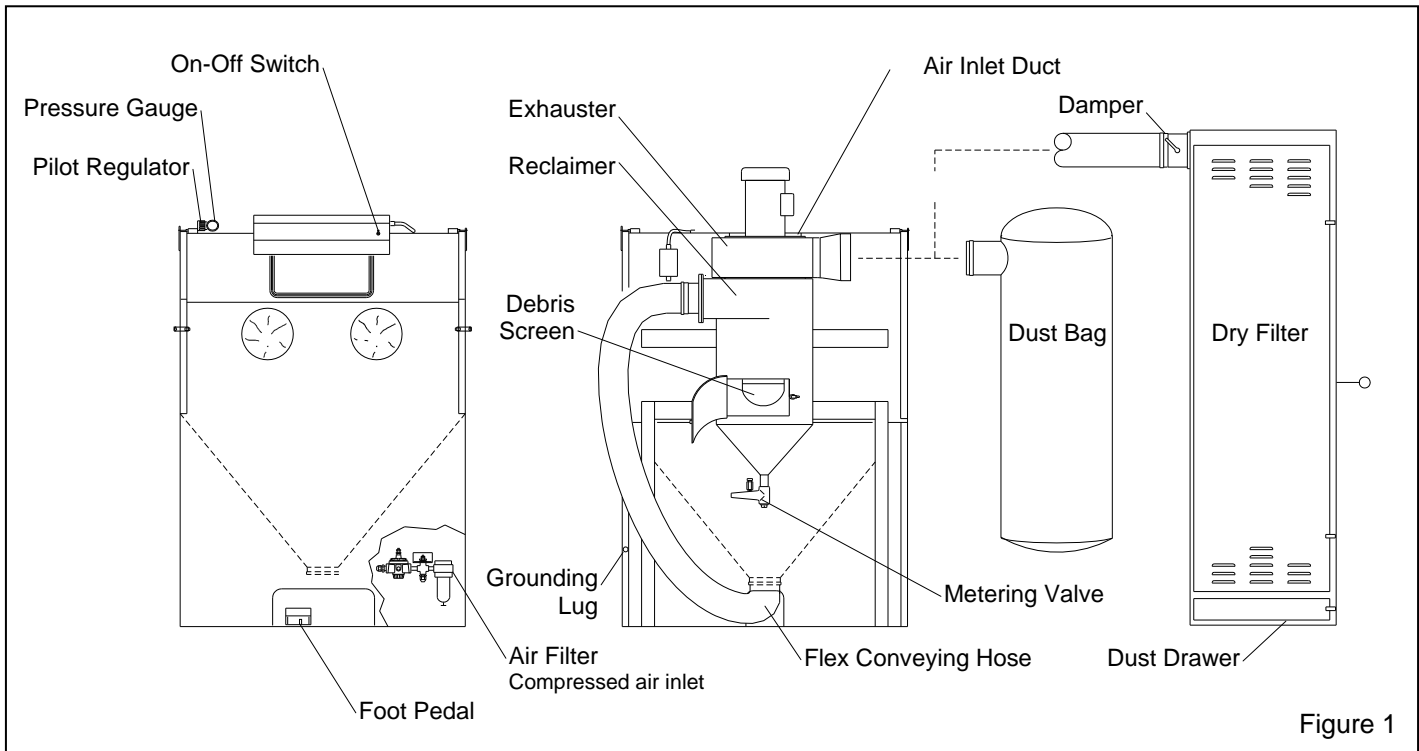

Figure 1
1.3.1 See Figure 1 for arrangement of components. INEX blast cabinets enclose the blasting environment to provide efficient blast cleaning while maintaining a clean surrounding work area. Production rates are influenced by size of nozzle, compressor output, working pressure, type and size of media, angle and distance of the nozzle from the blast surface. INEX cabinets consist of three major components:
**2.1.1** See Figure 1 for the general arrangement. Place all components in a convenient location where compressed air and electrical services are available. The cabinet location must comply with OSHA and local safety codes. Allow for full access to all doors and service areas, and for efficient handling of large parts. Provide enough clearance in front of the dust collector to remove the dust drawer without tipping. Determine the best location, and position all units before final assembly.